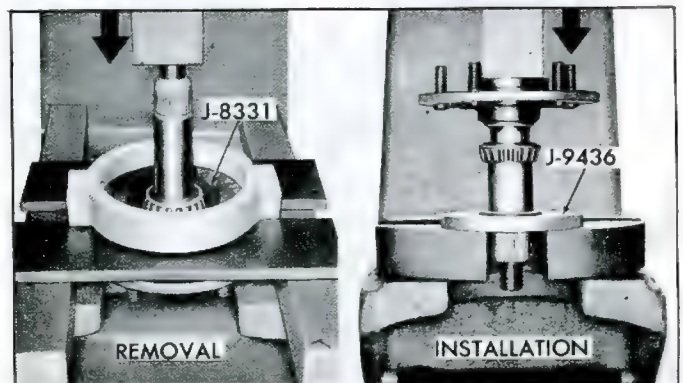

Fig. 72—Removing and Installing Drive Spindle Outer Bearing
3. Remove spindle outer bearing race and roller assembly, using split plates (J-8331) as shown in Figure 72. Installation of bearing can be accomplished by using bearing spacer and Tool J-9436 as a support.
4. Disassemble gauge and install spindle outer bearing on spindle as shown in Figure 72. Pack both wheel bearings with a high-melting point wheel bearing lubricant prior to installation.